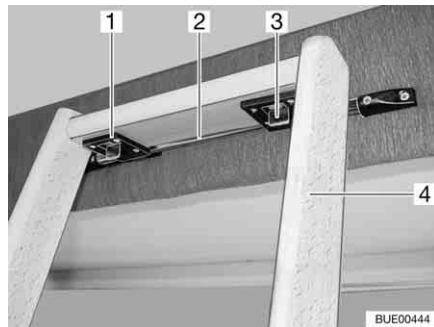

Fig. 101 Access ladder, catch
- Hang the access ladder (Fig. 101,4) with the two hooks (Fig. 101,1) on the rail (Fig. 101,2) of the frame of the pull-down bed.
- Push the two catches (Fig. 101,3) forward.